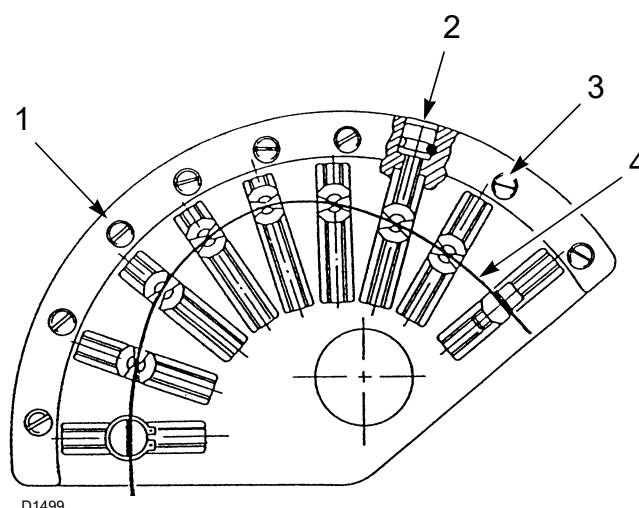

Fig. 36
Progressively adjust the end profile of cam 1)(Fig. 36) by turning the cam adjustment screws 2)(Fig. 36).
The passage from one position to the next one is obtained by pressing the selector 2)(Fig. 36) on the symbol (+) or (-).
For better adjustment repeatability, take care to stop the rotation of the cam unit when the upper bearing that slides on the profile 4)(Fig. 36) is aligned with one of the adjustment screws 2)(Fig. 36).
Screw or unscrew the pre-set screw 2)(Fig. 36) to increase or decrease the air output so as to adjust it to the corresponding gas output.
After output adjustment (maximum, minimum and intermediate), it is important to lock all the air adjustment screws 2)(Fig. 36) by the locking screws 3)(Fig. 36) so as to avoid possible movements from the position of air - gas calibration.
Key (Fig. 36)
act on the adjustment screws 2)(Fig. 36) after having loosened the screws 3)(Fig. 36).
- Calibrate the air delivery by adjusting the variable profile cam with the screws 2)(Fig. 36).
- With the optimal adjustment achieved, remember to lock the adjustment screws of the cam profiles by means of screws 3)(Fig. 36).